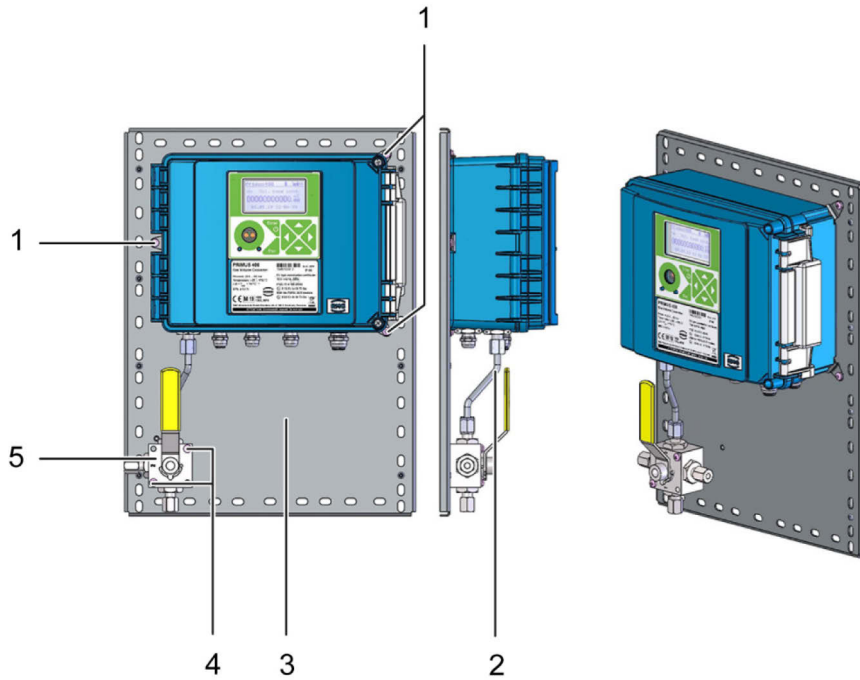

Fig. 6: Mounting Prilog 400 on a mounting plate
1. Before attaching the device to the mounting plate (fig. 6, item 3), first fit 3 pcs of brackets (fig. 5, item 2) using 3.5x12 self-tapping screws for plastic (fig. 5, item 3) supplied with the device onto the bottom side of the device (fig. 5, item 1).
2. Attach the device fitted with brackets to the mounting plate (fig. 6, item 3) using 3 screws M4x10 ISO 7045 (fig. 6, item 1). The M4 rivet nuts are pre-fitted on the mounting plate.
3. Attach a 6 mm connection pressure tube (fig. 6, item 2) to the pressure sensor in the bottom of the cabinet to connect the 3-way ball valve. To attach the tube to the pressure sensor, use a cutting ring with M12x1.5 ERMETO nut.
4. Attach a three-way tap (fig. 6, item 5) to the mounting plate using 2 screws M4x40 ISO 7045 (fig. 6, item 4). Check that the pins and the position of the three-way tap control lever are correctly oriented before installation. Connect the free end of the connection tube to the three-way valve outlet (for more details, refer to Section 5.4.3).